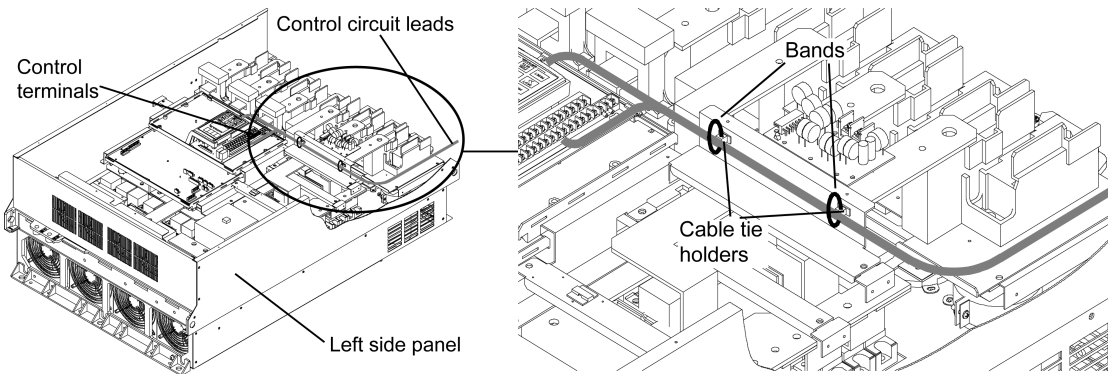

Figure 3-3-17
- (a) Pull the wiring out along the left side panel as shown in Figure 3-3-17.